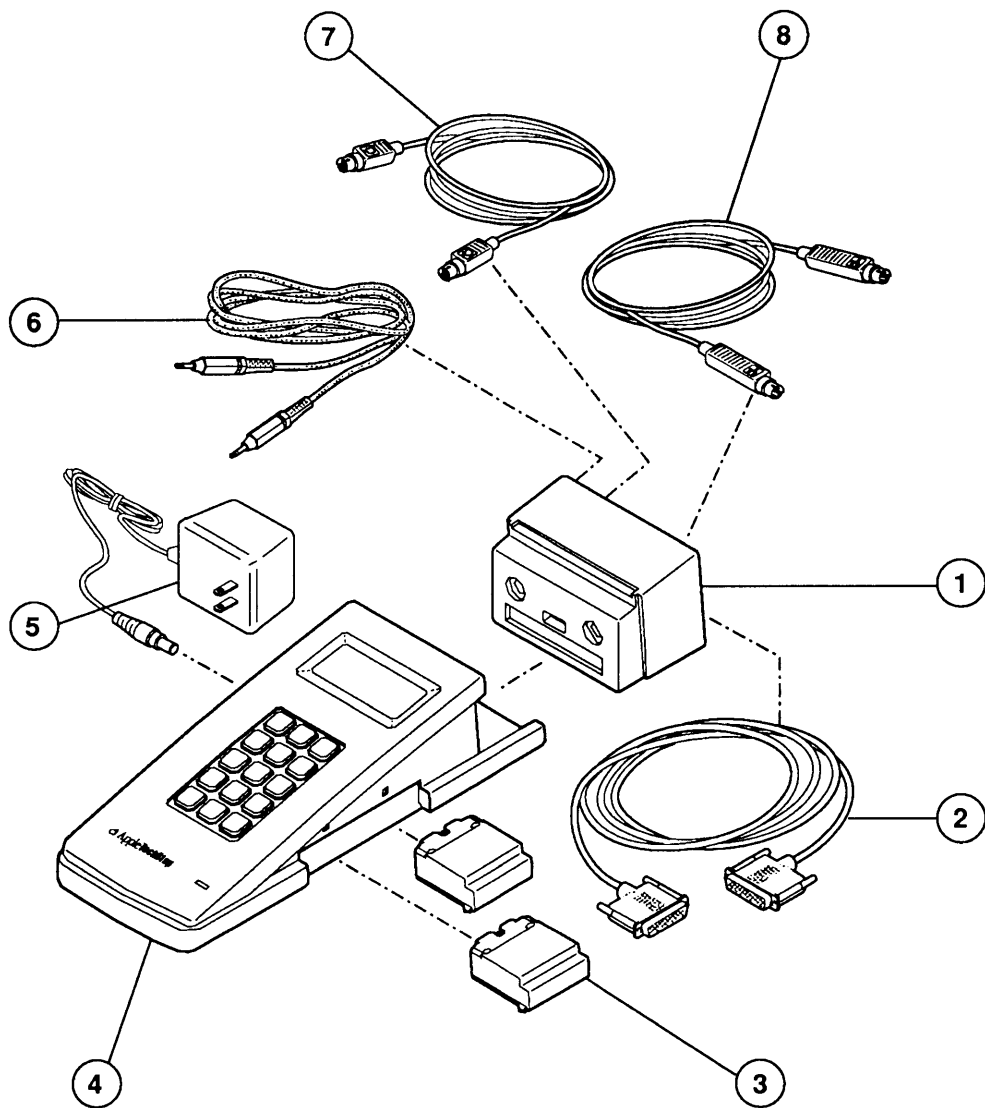

Figure 1 Apple TechStep
IPL.3 Apple TechStep (Figure 1)
□ **Apple TechStep (Figure 1)**